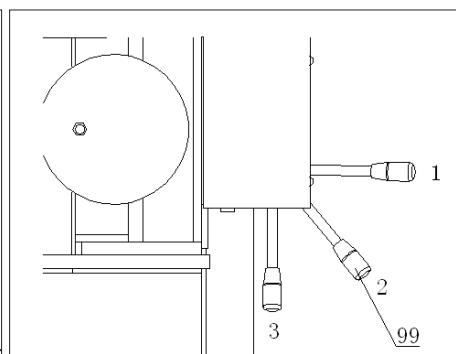

Fig.13
- 3 positions for the handle lever of selector valve: When it is in position 1, the piston rod is retracting;When it is in position 2, the piston rod is stopping moving;When it is in position 3, the piston rod is extending. Fig.13